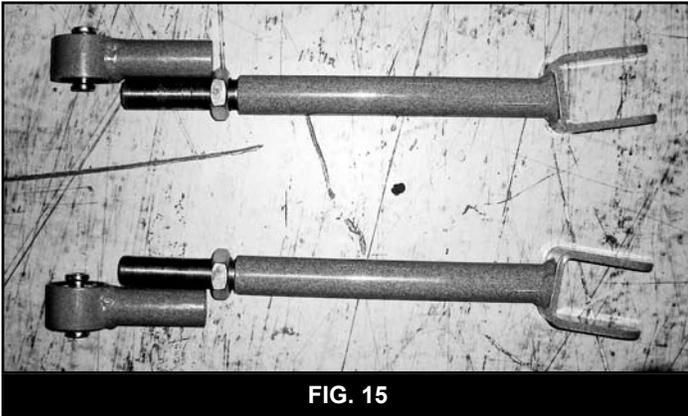

FIG. 15
45. Install a 10mm x 90mm bolt (BP 731) in the clevis end of each upper control arm. Measure from the center of the clevis (using the bolt to indicate center location) to the center of the eye of the control arm end (Fig 15). Adjust this distance to **17-3/4"**. Leave the jam nut loose. Note: When installed in the vehicle, the grease fitting must be pointing down. When adjusting the length of the arms, make them mirror images of one another, a driver's side arm and a passenger's side arm (Fig 15).